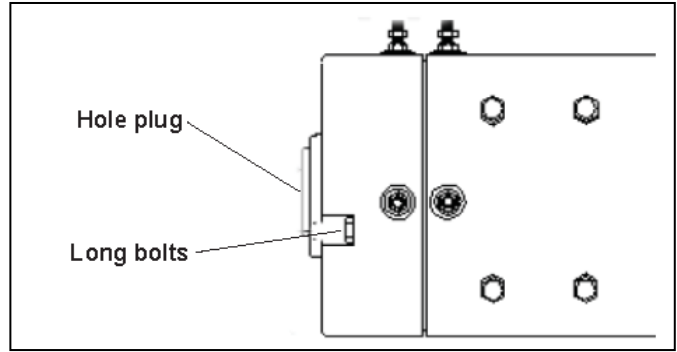

Figure 9-3
1. Remove long bolts. Remove motor head hole plug. See Figure 9-3.